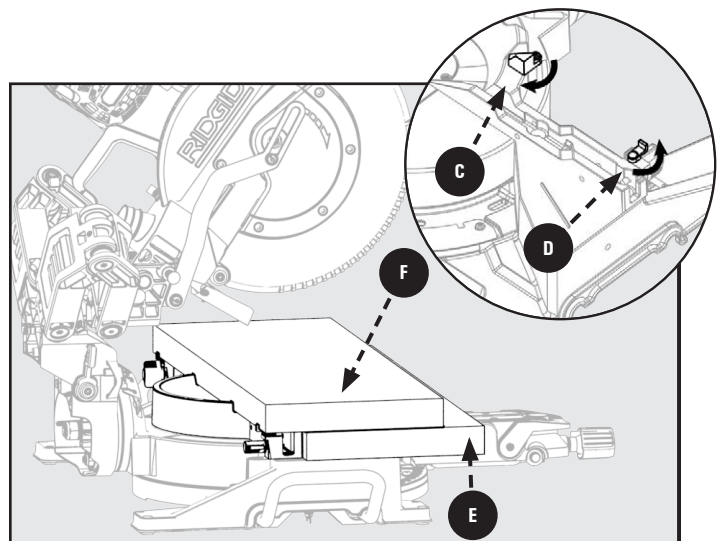

Figure 40
2. Flip the support tabs (C & D) into position. Tabs (D) are on both the left and right sides of the lower (fixed) fence. Tab (C) only exists on the right side of the lower (fixed) fence. These will function as your workpiece backstop. See Figure 40.
3. You will need to add a 2x12 (1-1/2 x 11-5/8) auxiliary table board (E) to support your large capacity workpiece (F). See Figure 40.